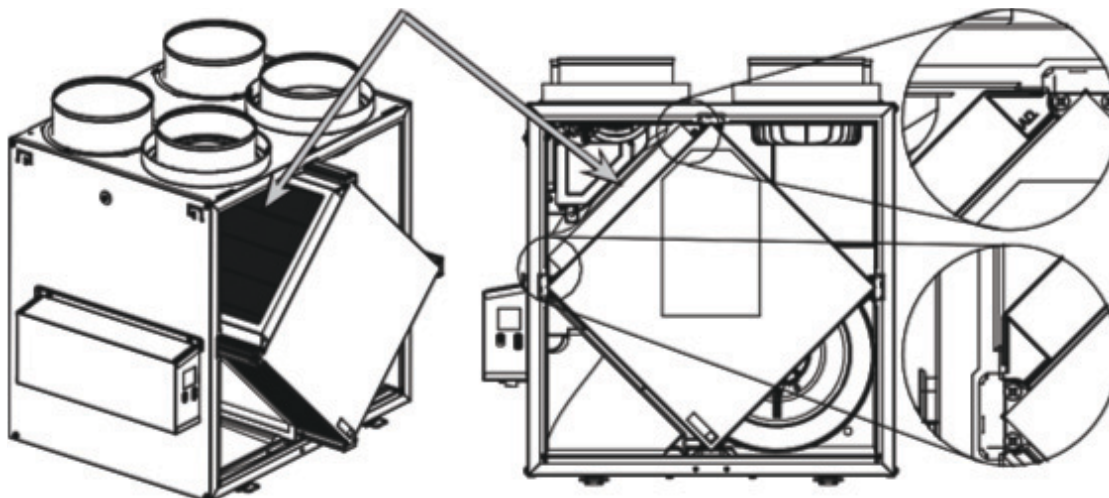

Fig. 28 – Optional MERV13 Filter
13. Install the MERV13 filter over the core (Fig. 28).